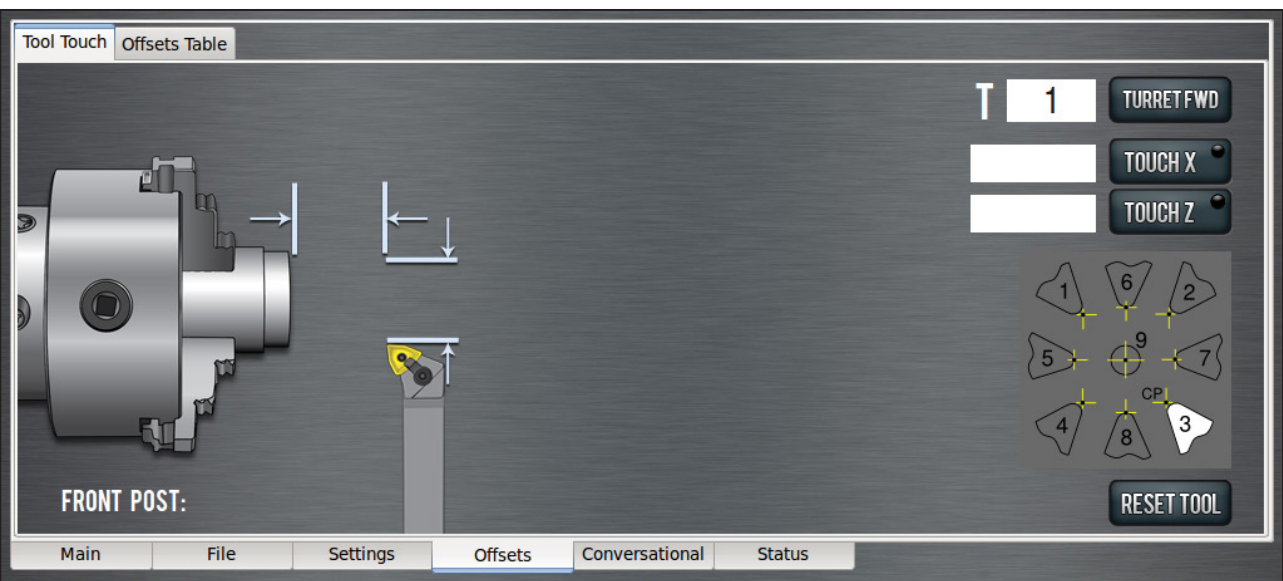

**Figure 5.16**
**Figure 5.16** shows a right-handed, front tool post turning tool highlighted as mouse hovers over it. Clicking on a tool image does a few things: